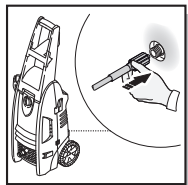

fig. 1
- At the back bottom of the unit, screw on the high pressure hose clockwise (fig. 1). Insert the hose far enough so the collar can thread into the outlet threads until hand tight. Do not use pliers or grips.